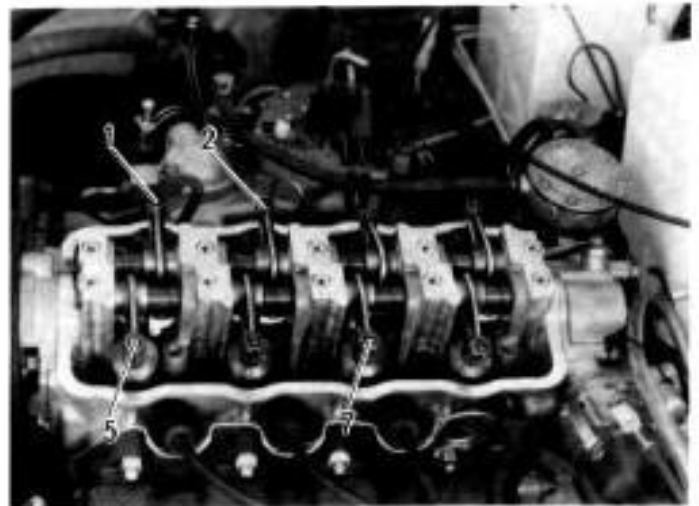

Fig. 3-149
Remove the plug—ignition timing check hole plug—provided at the joint between engine and transmission to gain visual access to the "T" mark. Turn over crankshaft to index mark ① to stationary mark ②, and see if the rocker arms of No. 1 cylinder are off the respective cam lobes (of camshaft); if so, valves ①, ②, ⑤ and ⑦, Fig. 3-149, are ready for clearance checking and adjustment: if not, turn over crankshaft further by 360° to index mark ① to mark ② again. This 360° turning should bring about the desired state (in which the four valves are ready for checking and adjustment).